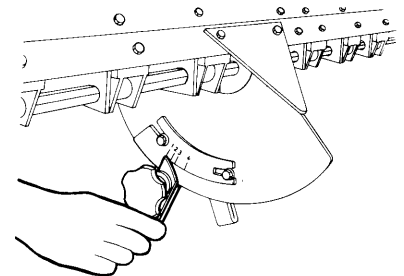

Figure 22
- 5/ Close the gate under the fluted rollers (see figure 22) and reinstall the blanking off caps over the correct side of the fluted rollers (see adjusting seed and fertilizer rates)